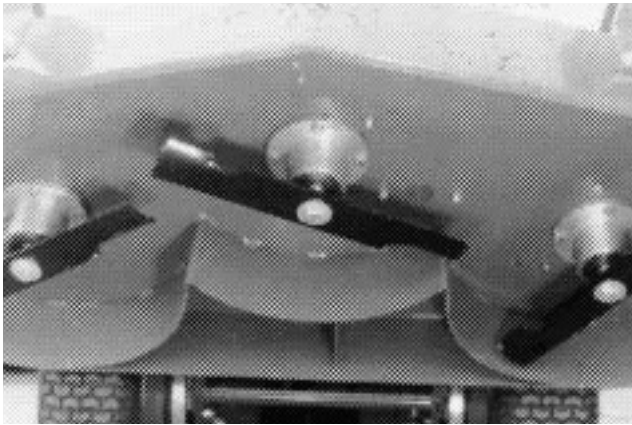

Figure 6
1. TO CHANGE A BLADE: (See Figure 6.)